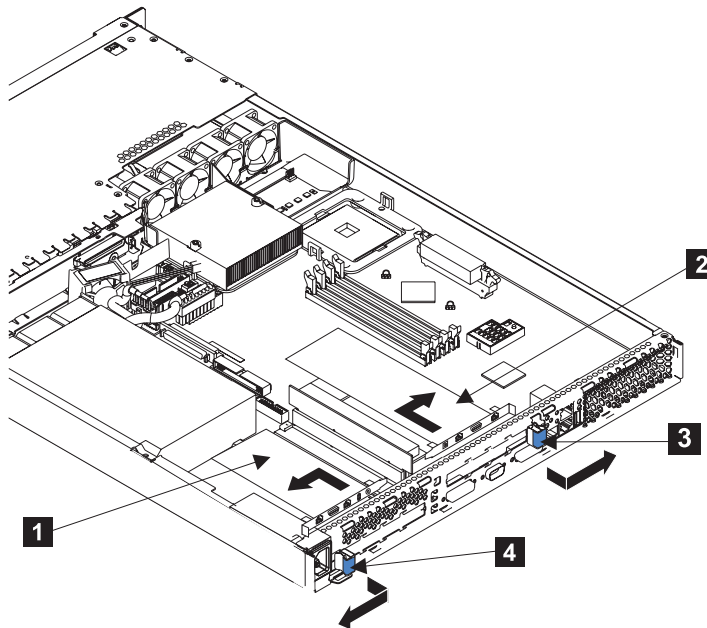

Figure 158. SAN Volume Controller 2145-4F2 before removing an adapter
4. For the adapter that you are going to remove, press the sides of the expansion-slot clip (**3** or **4** in Figure 158) together to unlock the clip, and then pivot the expansion-slot clip away from the adapter. The expansion-slot clip remains loosely attached to the SAN Volume Controller 2145-4F2.